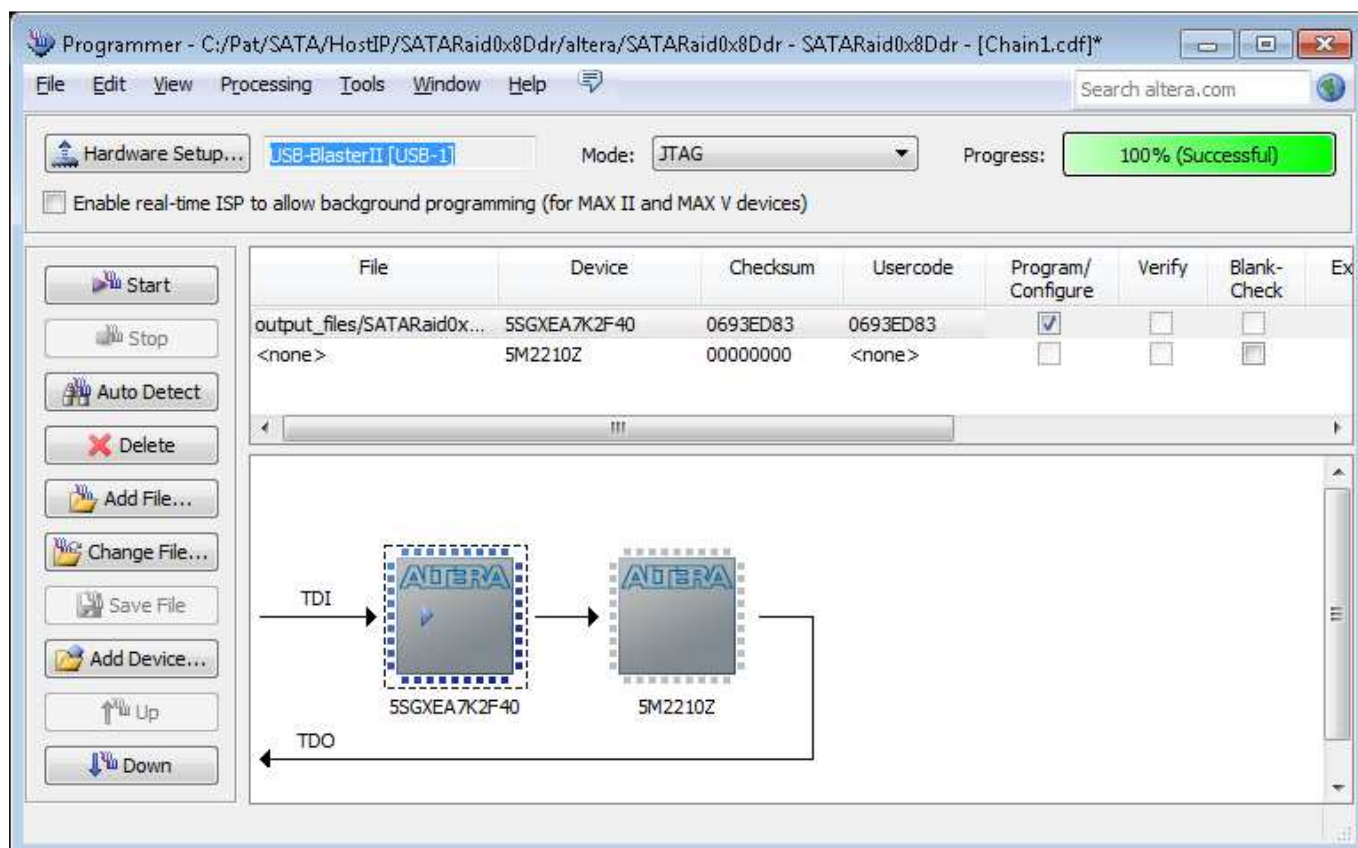

Figure 6 Programmer Environment
- Open QuartusII Programmer and download “SATAraid0x8Ddr.sof” to FPGA board, as shown in Figure 6.